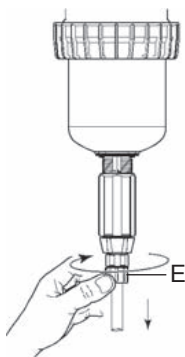
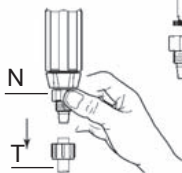

Fig. 16
Fig. 17
- Unscrew the nut (**Fig. 16-E**) and pull downwards to remove the suction hose (**Fig. 17-T**).
- Unscrew and remove the nut (**Fig. 17-N**).
- Pull downwards to remove the suction valve assembly (**Fig. 17**).